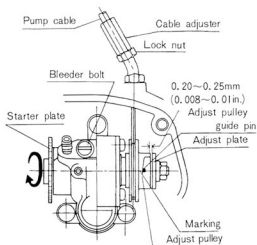

Fig. 2-3-4
- a. Slowly open the accelerator grip when the slack of the throttle cable A is removed (in this case, the accelerator grip feels tight), adjust the pump cable so that the marking on the pump adjusting pulley is aligned with the adjusting pulley guide pin. (See Fig. 2-3-4.)